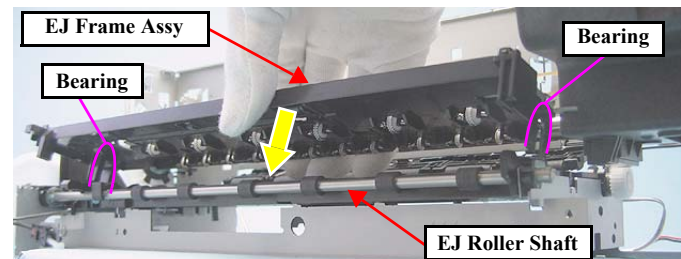

Figure 4-77. Reinstalling the EJ Frame Assy
- As shown in Fig.4-77, insert the two bearings of the EJ Frame Assy over the EJ Roller Shaft.